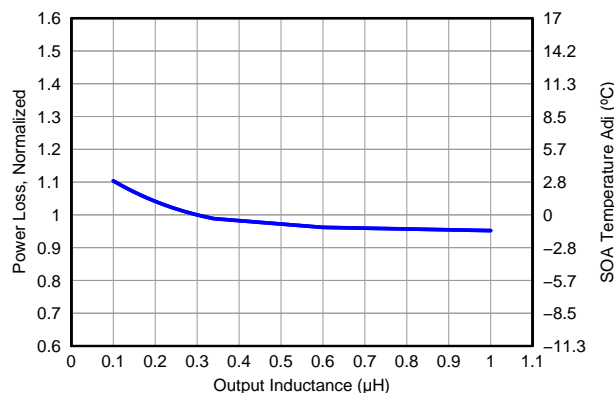

Figure 15. Normalized Power Loss vs Output Inductance
- Normalized Power Loss for output inductor  $\approx 1.04$  (Figure 15)
- SOA adjustment for output inductor  $\approx 1.3^\circ C$  (Figure 15)